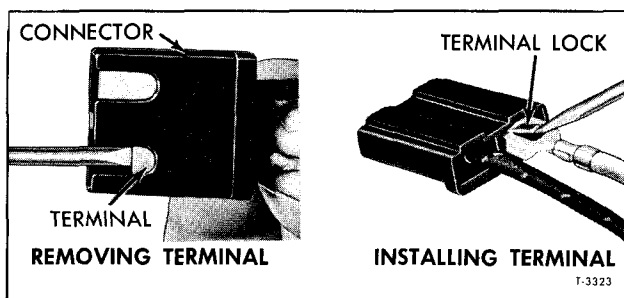

Figure 1—Replacing Blade Type Connector Terminals
1. To remove a blade-type terminal from the connector, disengage lock tangs and separate connector. Insert a thin-bladed instrument under mating end of connector terminal and pry up on terminal being careful not to damage connector. Pull wire and terminal from connector as shown in figure 1.